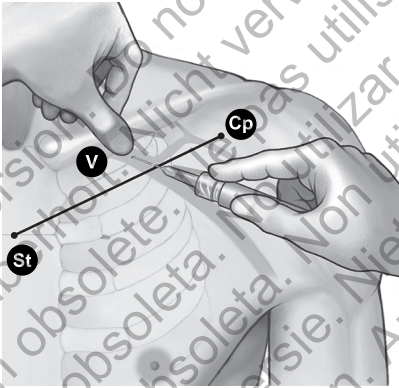

Figure 5. Location of thumb and needle entry.
4. Press a thumb against the index finger and project 1–2 centimeters below the clavicle to shield the subclavius muscle from the needle (when hypertrophy of the pectoralis muscle is apparent, the thumb should project about 2 centimeters below the clavicle because the subclavius muscle should be hypertrophied as well) (Figure 5 Location of thumb and needle entry on page 15).